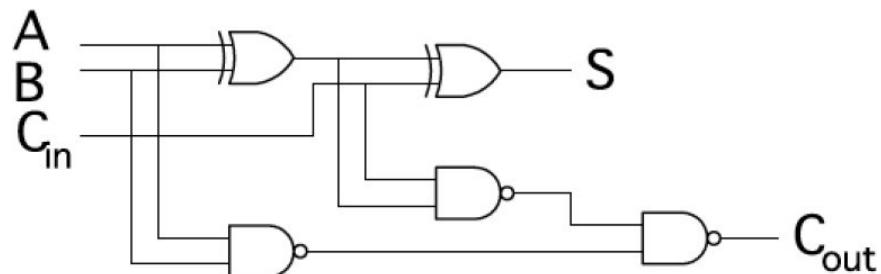

Figure 3: The full-adder
- The full adder is a combination of two half-adders to produce a combinational logic circuit with a sum output (S), and a carry output ( $C_{out}$ ) from inputs A, B, and  $C_{in}$ . Figure 3 illustrates the full-adder combinational logic circuit. This arrangement permits fast parallel organization for the addition of n-bit numbers. This circuit is the basis for many arithmetic functions, such as, subtraction, multiplication, and division. Build this circuit and verify the truth table. Use switches for inputs and LEDs for output(s).